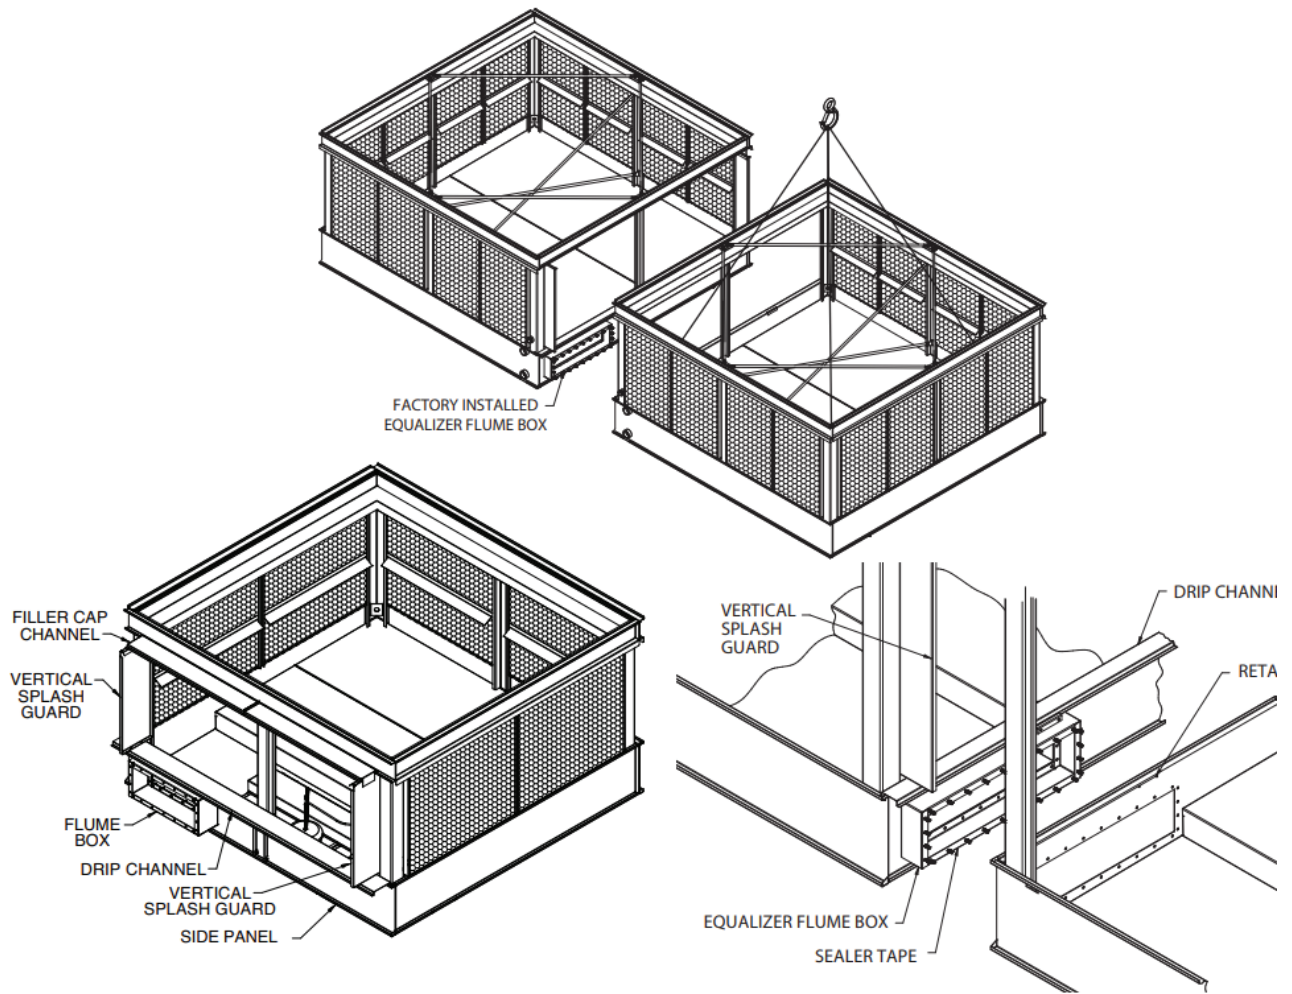

Figure 3a — Joining Bottom Sections - Multi Cell Units
10. Place the vertical splash guard in the bend of the vertical supports. On galvanized units, attach the vertical splash guard using 5/16" (8mm) self-tapping screws. On stainless steel units, attach the vertical splash guards using 5/16" (8mm) stainless steel nuts and bolts. (See Figure 3a)